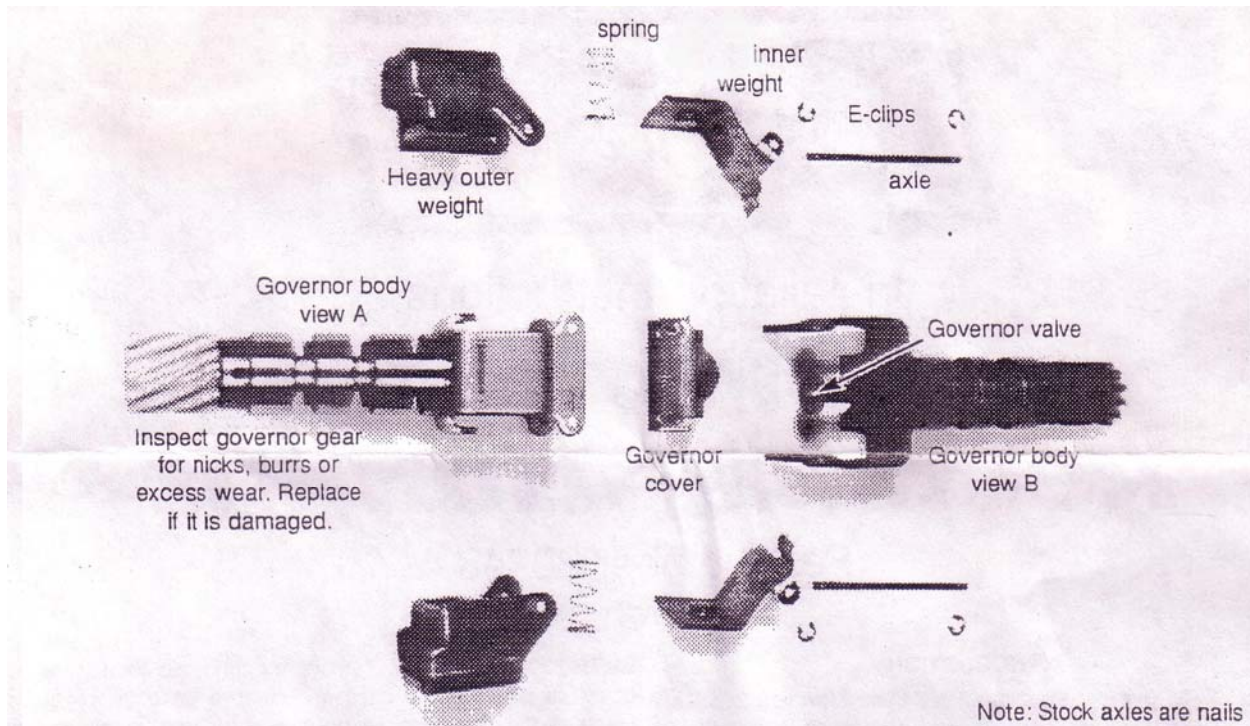

Figure 1
Step 3. Place the inner weight inside the heavy outer weight. Place the spring from the kit on the raised spring perches. Install one of the supplied E-rings on each of the supplied axles. Install the weight and spring assembly onto the governor. Place the cover on the governor. Insert axle through the cover, governor body and weights. Install a second E-ring on each of the axles. Make sure the governor valve moves freely in its bore and the governor weights move freely and properly (see figure 1).